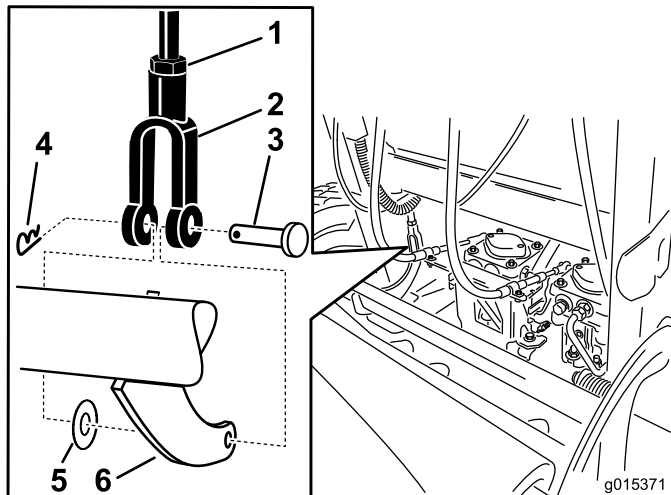

Figure 72
5. To adjust the brake, remove the hairpin cotter and clevis pin from the lower brake lever and yoke (Figure 72).
6. Loosen the jam nut (Figure 72).
7. Rotate the yoke (Figure 72).
8. Secure the yoke to the lower brake lever with the hairpin cotter and clevis pin (Figure 72).
9. Tighten the jam nut (Figure 72).